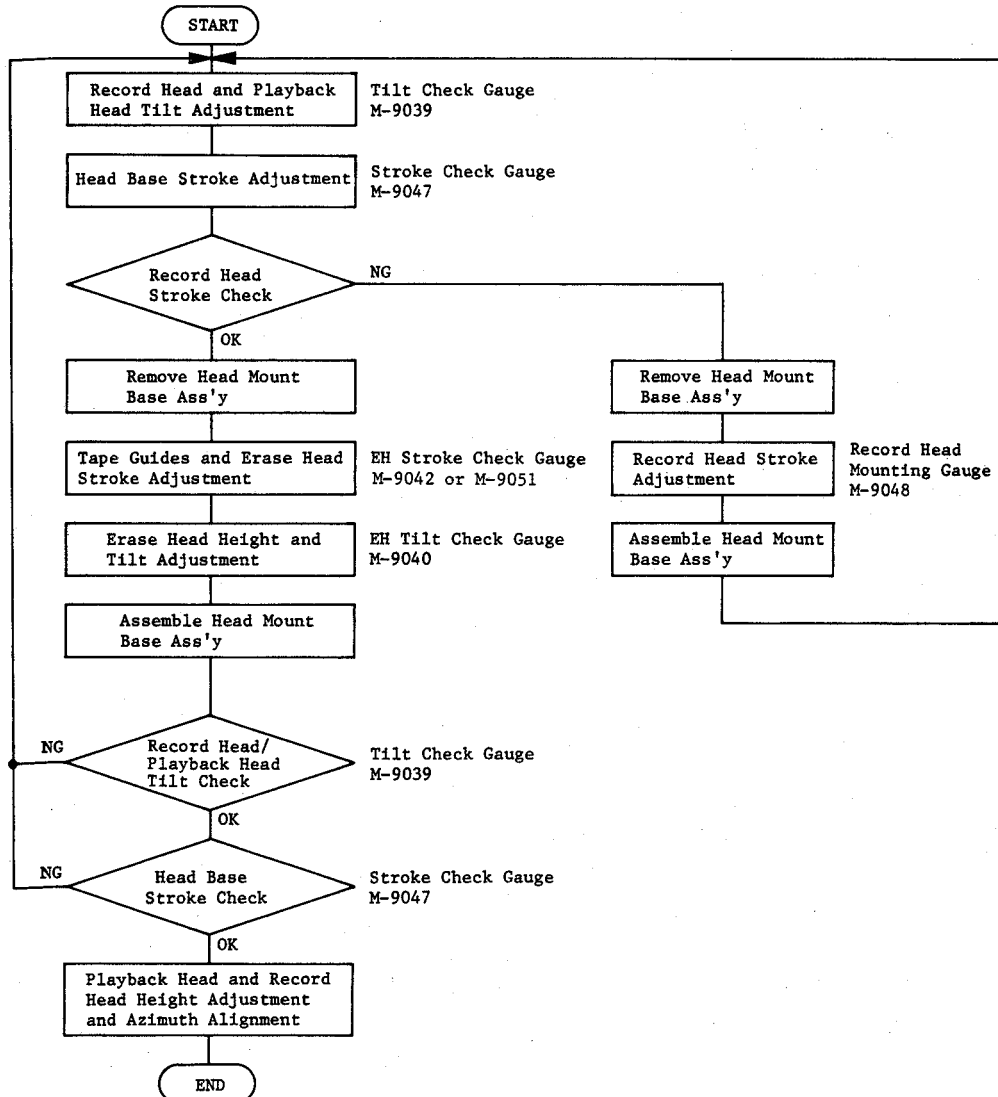

Fig. 5.4
Note: On items 5.3 – 5.8, please refer to Fig. 5.4 flow chart.